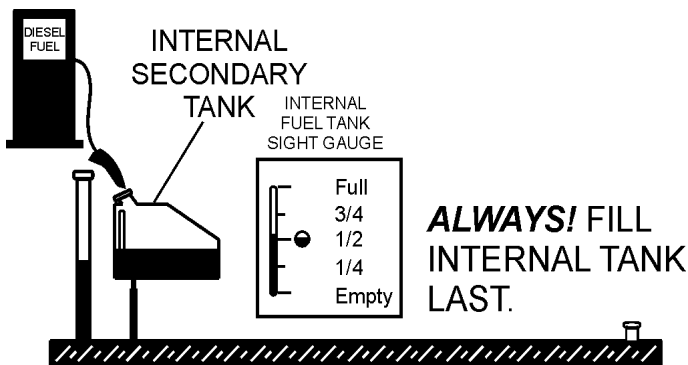

Figure 37. Filling Secondary Internal Fuel Tank
5. Once the trailer tank is full, the **secondary inner tank** can be filled (See Figure 37). Notice how the trailer filler tube level rises when the internal tank is filled.